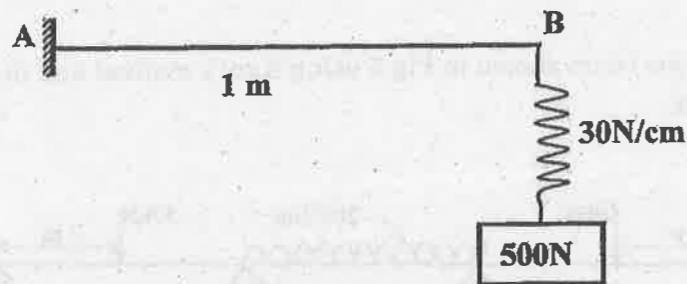

Fig. 7
20. Determine the natural frequency of the system shown in Fig.7. A weight of 500 N is suspended from a cantilever beam AB, through a spring of stiffness 30N/cm. The beam is 2.5 cm wide and 0.5 cm deep and of span 1m. Take $E = 2 \times 10^5$ MPa.